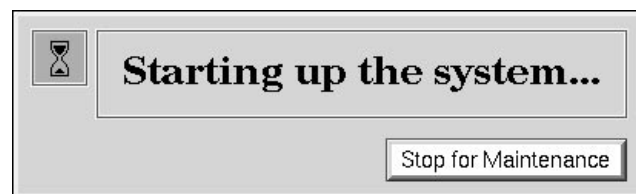

Figure 2-36 Starting Up the System Notifier
- Click *Restart*. You see the system startup message shown in Figure 2-36.